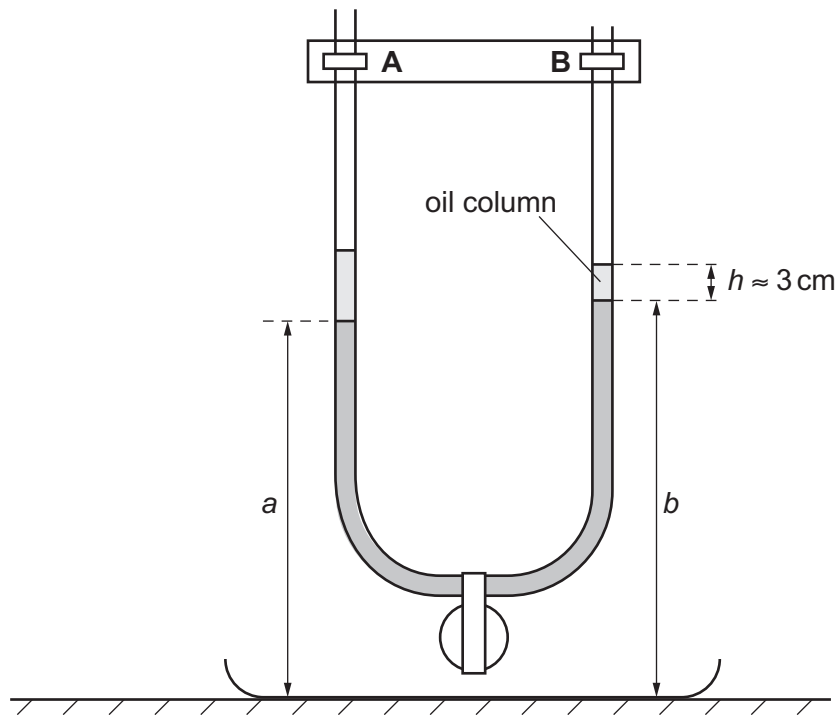

Fig. 1.3
The final length of the oil column above the water in **B** is h . Continue adding oil until h is approximately 3 cm, as shown in Fig. 1.3.
- The height of the water level in **A** is a , and the height of the water level in **B** is b , as shown in Fig. 1.3.